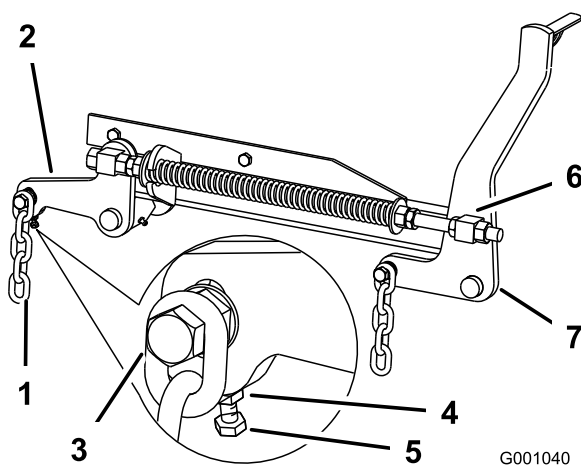

Figure 64
7. If the measurements at positions **B** or **C** are not correct, loosen the bolt attaching the rear chain to the rear support arm (Figure 64).
8. Loosen the jam nut under the rear support arm and adjust the adjustment bolt to get a measurement of 3-1/8 to 3-1/4 inches (80 to 83 mm) (Figure 64).
7. Loosen the front swivel jam nuts, at the front of the right and left swivels, approximately a 1/2 inch (13 mm) (Figure 64).
8. Adjust the lift nuts on both the left and the right side of the machine to achieve 1/4 to 3/8 inch (6 to 10 mm) lower in front at **A** than in the rear at **B** (Figure 64).